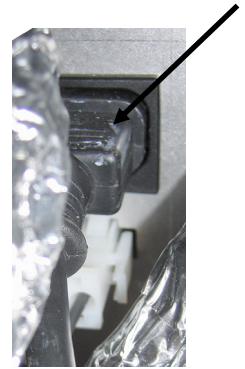

Figure 16
4. Disconnect filter motor power connection. It is located in the top right corner of the FIB box as viewed from the rear of the fryer (see Figure 16).